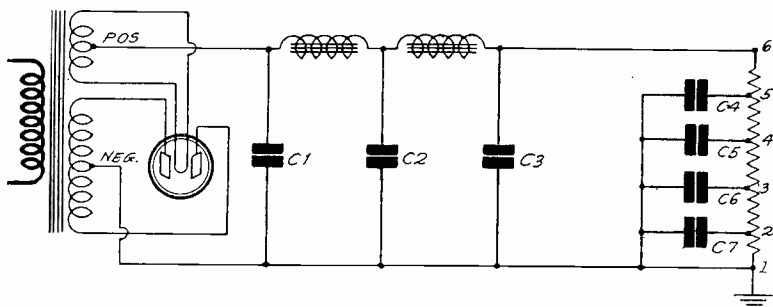

FIG. 782
The diagram is published herewith as Fig. 782. A 5-volt winding heats the rectifier tube. The other winding is high voltage, about 350 to 375 volts across each half of the secondary, 700 to 750 across entirety. C1 is 2 mfd., C2 is 2 mfd. or higher capacity, C3 is as high as you can get. The output voltage divider points (1) to (6), may be a 10,000-ohm 50-watt resistor with four sliders, so you can get what voltage values you desire. The by-pass condensers are 2 mfd., except whatever one you use for bypassing the last audio biasing resistor. This capacity should be 4 mfd.